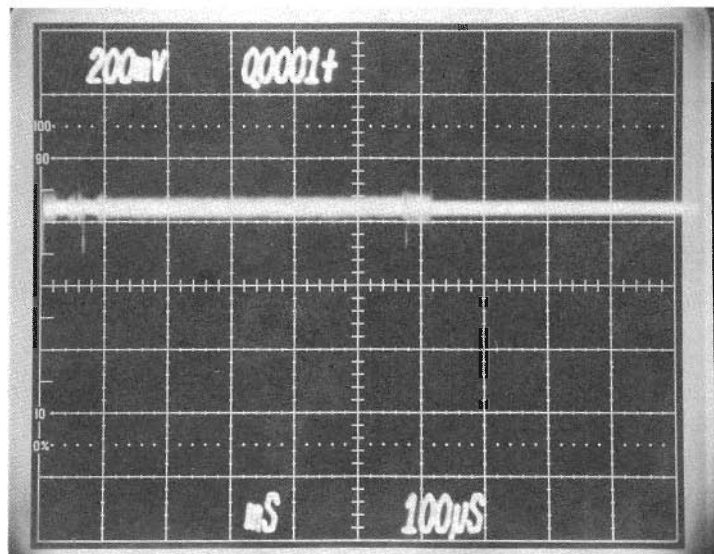
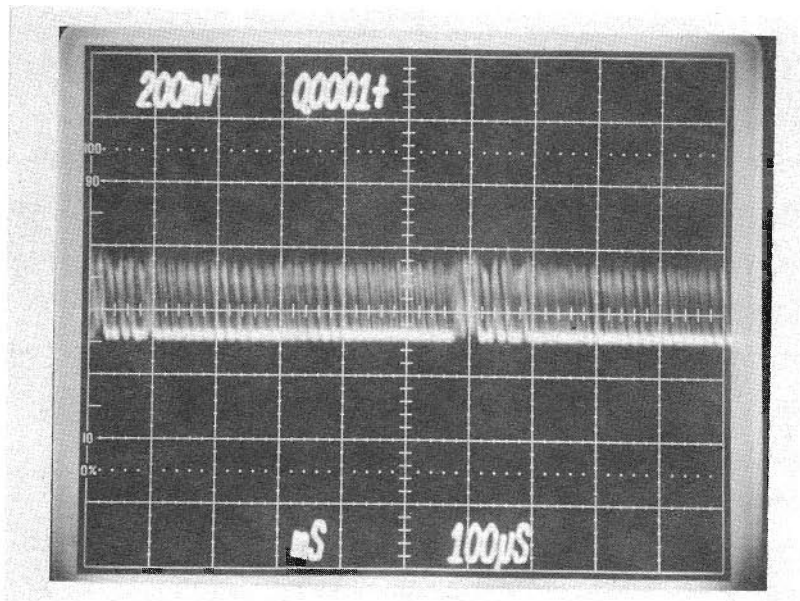
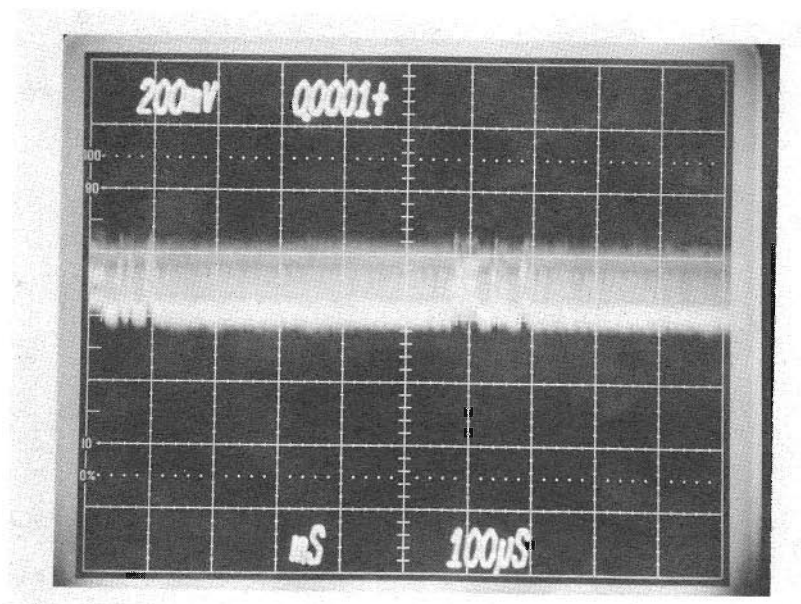

FIGURE 11-2B R7 ADJUSTED PROPERLY
FIGURE 11-2C R7 SET TOO FAR COUNTERCLOCKWISE
FIGURE 11-2D R7 SET TOO FAR CLOCKWISE
18. Adjust R7 to obtain a waveform similar to FIGURE 11-2B. Adjust R7 to minimize noise, as in FIGURE 11-2B. FIGURES 11-2C and 11-2D show typical waveforms when R7 is turned too far counterclockwise (FIGURE 11-2C) or too far clockwise (FIGURE 11-2D).
If R7 is adjusted properly, FIGURE 11-2B will be observed, and the "periods" (.) from the verify program in step 16 will be displayed at a constant rate of speed. If R7 is turned in either direction (CW or CCW) until a verify ERROR occurs, either FIGURE 11-2C or 11-2D will be observed (dependent on direction). Watching the rate at which the "periods" (or the "ERRORs") are being displayed may help in setting R7 correctly. It may be helpful to purposefully create errors (by turning R7 to its extremes) in order to see what the waveform (noise) looks like when R7 is maladjusted.
If R7 appears to be adjusted properly (ref: FIGURE 11-2B), yet verify ERRORS still occur, the fixed-disk drive--or the disk sector that is being verified--is probably bad. Verify some other sectors on the fixed-disk to determine whether the drive or the platter is bad.